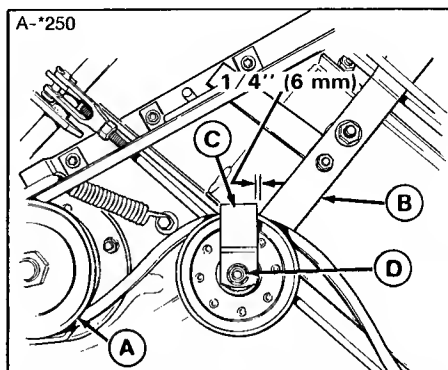
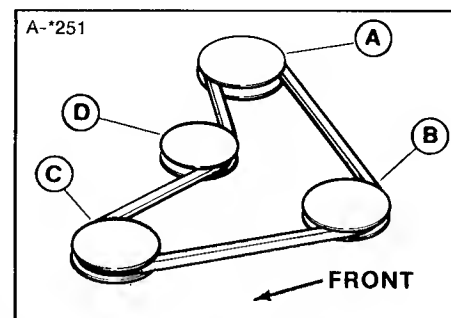

Figure 25. Mower Belt Replacement
Figure 26. Mower Belt Pattern - 36''
2. Loosen the belt guide (C, figure 25) on the idler pulley.
3. Move idler arm (B) toward rear of mower deck to release blade brakes.
5. Install the new belt on the pulleys as shown in figure 26.
7. Reposition the belt guide on the idler pulley (figure 25). Before tightening the nut (D), position the belt guide so it is 1/4 inch (6 mm) behind the idler arm (B) when viewed from above (figure 25). Hold the belt guide when tightening nut.